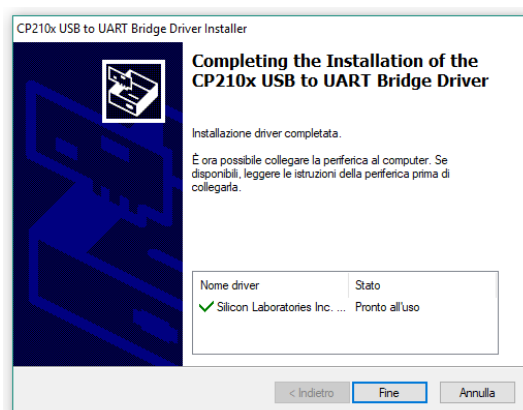

Fig. 2.2-7 Finish
- Click **Finish** to complete the installation (Fig.2.2-7).